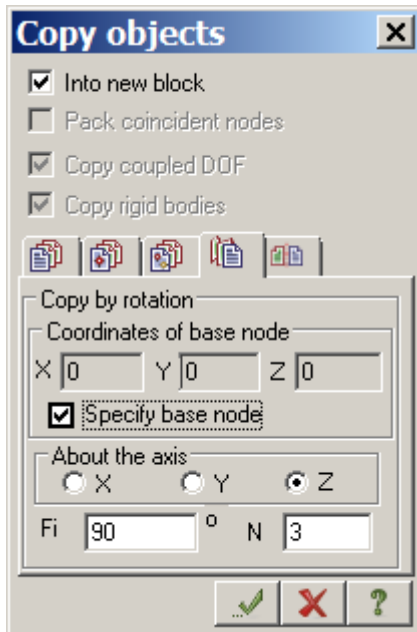

Figure 5.12 **Copy objects** dialog box
- ⇒ The **Copy objects** dialog box is presented with the **Copy by rotation** tab open (see Fig.5.12). In this dialog box specify the following parameters: